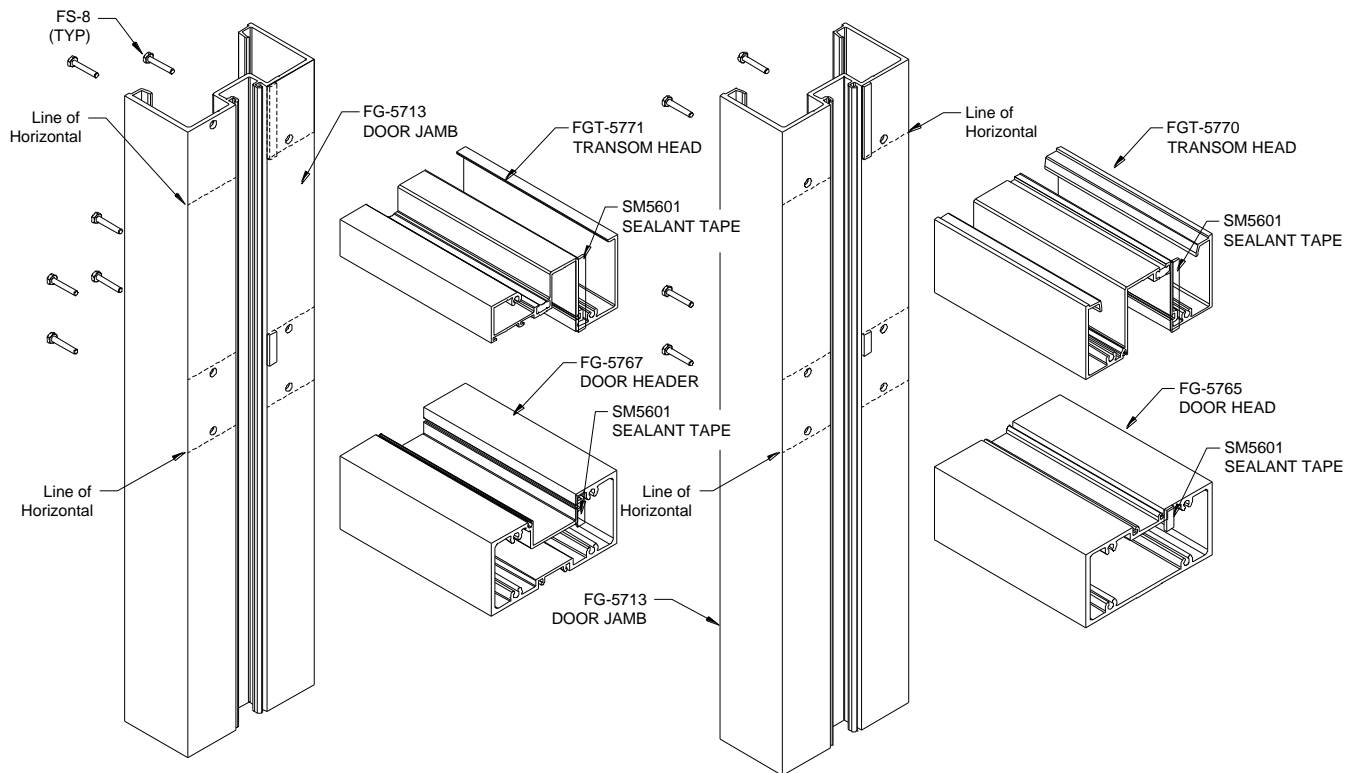

Figure 14: ArmorDefend™ Plus Door Jamb to Head Connections
5.1 Reference Figure 14 to assemble Door Jamb to Door Head and Transom Head (if applicable). Apply **1/8" x 1/2" SM5601 Sealant Tape** to joint intersections at Door Header or Transom Bar and Transom Head Horizontal and assemble with **FS-8** fasteners.